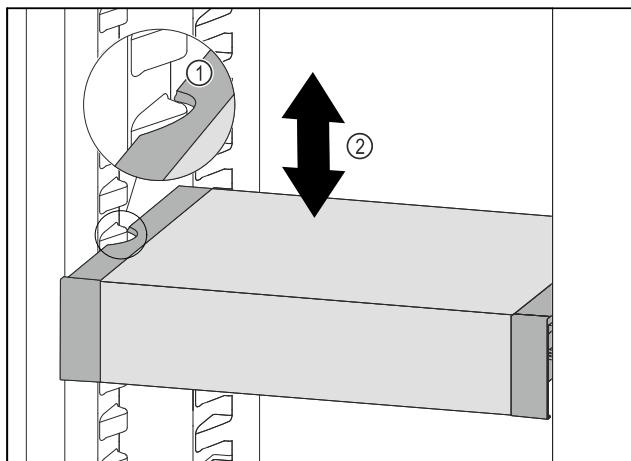

Fig. 125
- ▶ Pull VarioSafe forwards until the recesses in the side of the VarioSafe are at the level of the support rib in the refrigerator compartment. *Fig. 125 (1)*
- ▶ Move VarioSafe up or down in the refrigerator compartment until the desired height is reached. *Fig. 125 (2)*